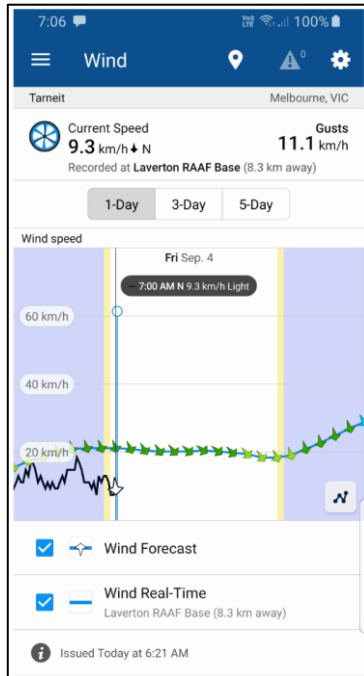

Figure 6– Willy Weather – Weather forecast app
- High winds (Speed of 40 km/h or greater – Refer: 4.3 Weather and Site Conditions, Table 2, Figure 6 - Willy Weather app);
High Winds – Speed of 40 km/h or greater	The Tip Head shall move to a watch and act status. Site management is to be notified. <ul style="list-style-type: none"> Consultation between Site Management and Tip Head personnel, regarding actions to be implemented shall be noted in the Tip Head Logbook. Additional items to consider; <ul style="list-style-type: none"> Monitor wind strength and direction to assess actions that may be required – refer to figure 6 Willy Weather app, Alter tipping direction for wind direction, Restrict higher risk tasks (i.e. Semi Tippers, Quad Dogs), Restrict number of trucks tipping on Tip Head, Close Tip Head to Tipping